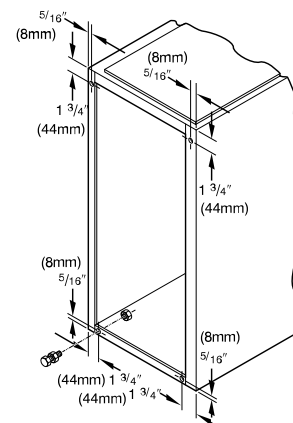

Fig. 10 – Leveling Legs
In upflow position with side return inlet(s), leveling legs may be used, see Fig. 10. Install field-supplied, $5/16 \times 1\text{-}1/2 \text{ in.}$ ($8 \times 38 \text{ mm}$) (max) corrosion-resistant machine bolts, washers and nuts.
1. Position furnace on its back. Locate and drill a hole in each bottom corner of furnace, see Fig. 10.